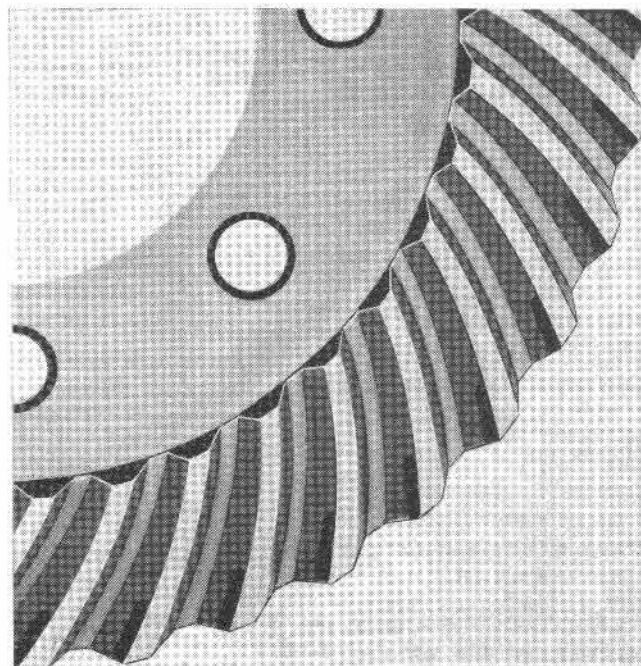

Fig. 91
- 2 - Excessive contact at tooth heel (see Fig. 91). This means that crown is too far apart from pinion. Approach crown to same adopting an o/s shim.